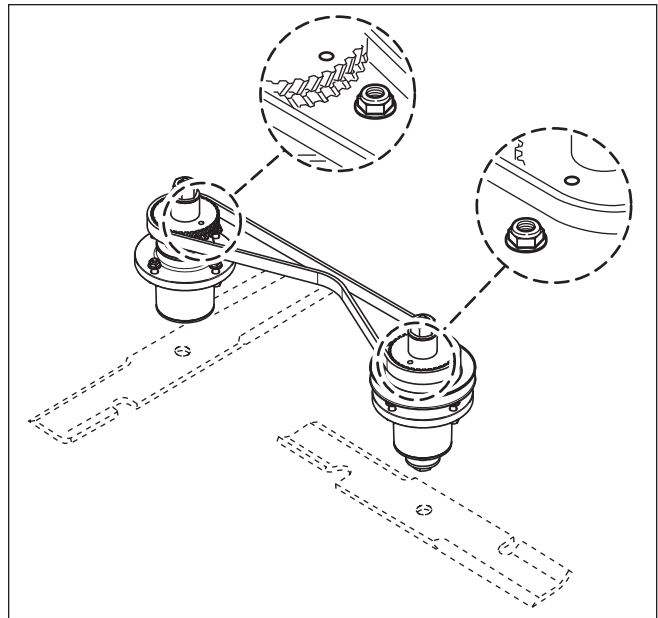

Figure 35. Blade Alignment
8. Refer to figure 35. Align the holes in the sprockets with the spindle mounting hardware as shown. The blades will be perpendicular to each other.